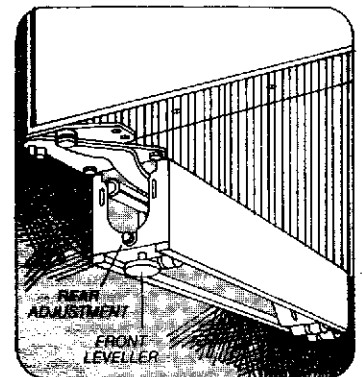

Figure 12
4) Using the front and rear levelers, the unit must be raised until it contacts the wood block. See Figure 12.
To reduce possibility of cabinet tipping forward, front levelers must be contact with floor. See Figure 12.
Level the unit. To adjust height, turn front leveling legs counterclockwise to raise, or clockwise to lower. Rear levellers (rollers) are adjusted from front of base. Turn 5/16" hex bolt clockwise to raise cabinet, counterclockwise to lower cabinet. See Figure 12.